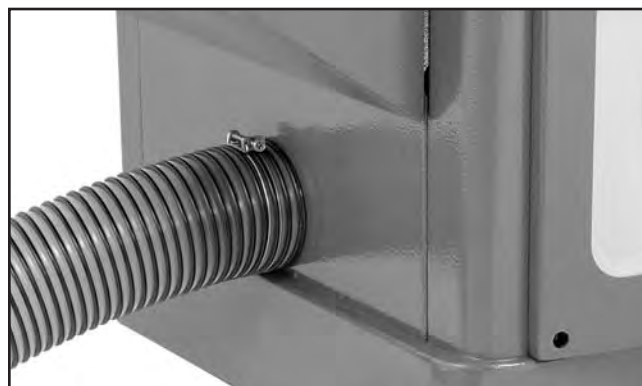

Figure 32. Dust hose attached to dust port.
1. Fit the 4" dust hose over the dust port, as shown in **Figure 32**, and secure in place with a hose clamp.